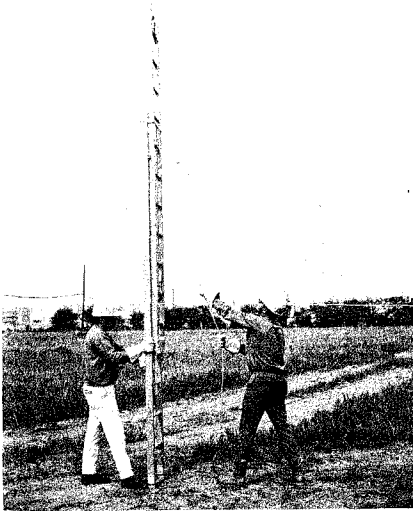

Fig. 33 — Two-Man Method of Extending Top Section
8.05 One craftsman shall hold the side rails of the lower section on the back side of the ladder during the raising and lowering of the upper section by another craftsman. Exercise care to prevent the ladder guide irons from striking and injuring the hands of the craftsman holding the side rails. The positions to be taken by the craftsmen are shown in Fig. 33. The ladder is raised by the second craftsman.